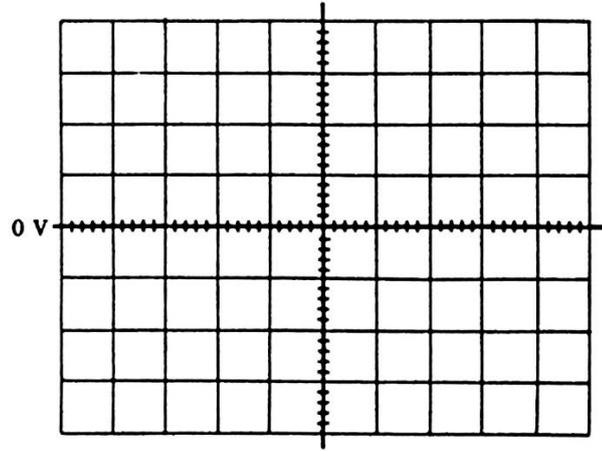

Figure 3.3b
20. Record the displayed voltage transfer characteristic (VTC) on Fig. 3.3b.